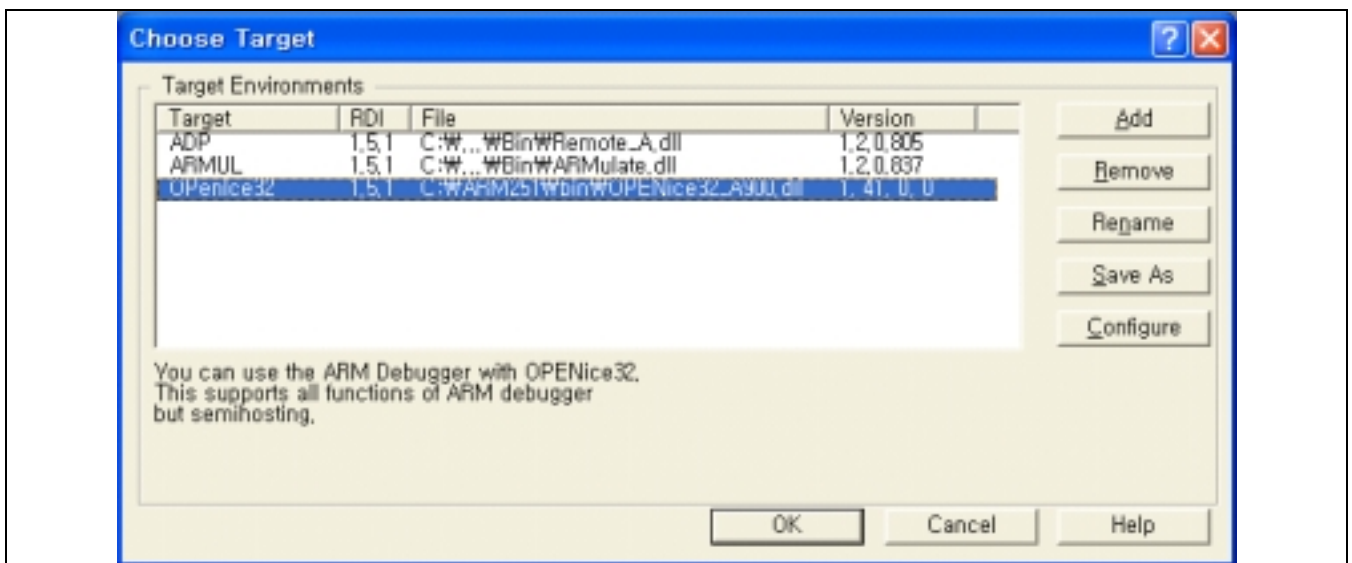

Figure 2-14. Debugger Configuration: Target Page
2. Debugger Configuration dialog box is displayed (See Figure 2-14). If there is no OPENice32-A900 in the target environment box, then you have to click on the Add button and select OPENice32-A900.DLL.